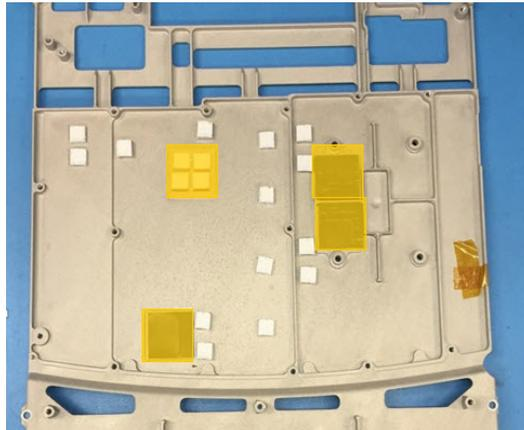

Figure 6.21 Thermal Pad placement
Note: If the Main PCBA is replaced, the Service Assembly will come with the spring screw and a new set of thermal pads for installation on the midframe. Reference Figure 6.21. Locally sourced Kapton Tape will also need to be installed. If the system already has the new thermal pad/kapton tape arrangement, the replacement is not required.
- 1 Refer to Figure 6.21 for a view of the Midframe and thermal pad placement. Earlier systems had a one inch pad in the upper left corner which is now replaced by four of the smaller pads. The Kapton Tape prevents the pads from sticking to the components and allows for easier removal of the Main PCBA..
- 3 Install new thermal pads on the new Mid-Frame, do so per Figure 6.21